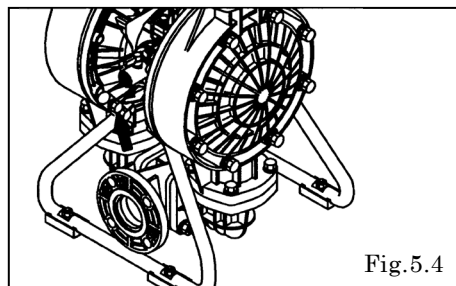

Fig.5.4
- Remove the 8 (4 on the NDP-H40) retainer bolts from the stand body, and remove the stand body. [Fig.5.4]